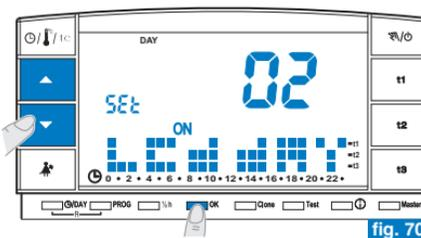

fig. 70
- From the display contrast screen (example in fig. 69) press ▲▼ to view level "02" LCd dAY (example in fig. 70).